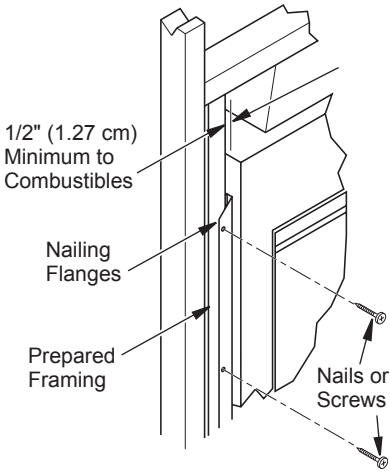

Figure 9 - Nailing Flanges
6. Secure firebox to framing at nailing flanges located on sides of firebox (see Figure 9, page 6).